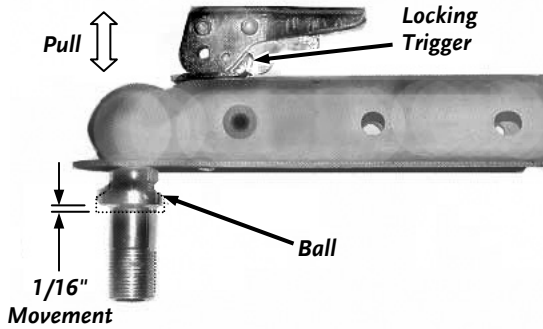

Figure 70
1. Place the proper size ball in the socket of the coupler and close the latch assembly (**Figure 70**). Verify that the locking trigger is properly engaged in its detent.